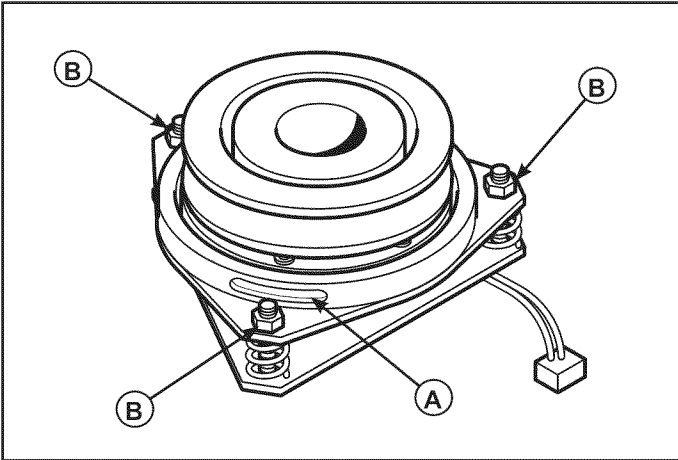

Figure 19. PTO Clutch Adjustment
2. Note the position of the 3 adjustment windows (A, Figure 19) in the side of the brake plate and the nylock adjustment nuts (B).
4. Alternately tighten the adjustment nuts (B, Figure 19) until the rotor face and armature face just contacts the gauge.